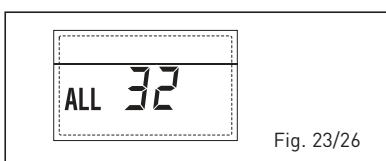

Fig. 23/26
- ANOMALIE COMMUNICATION CARTE RS-485 EN MODE MODBUS "ALL 33" (fig. 23/27)